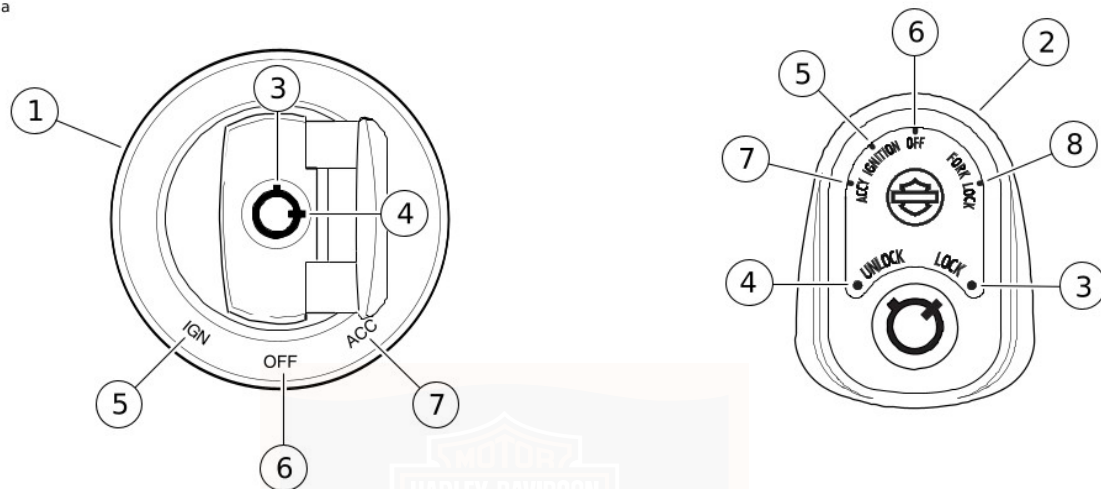

Figure 19. Ignition Switch
See Figure 19. The ignition switch controls electrical functions of the motorcycle.
With fairing: See Figure 19. The fork lock is integrated into the ignition switch.
2. See Figure 19. Turn switch knob to FORK LOCK. Push knob down.